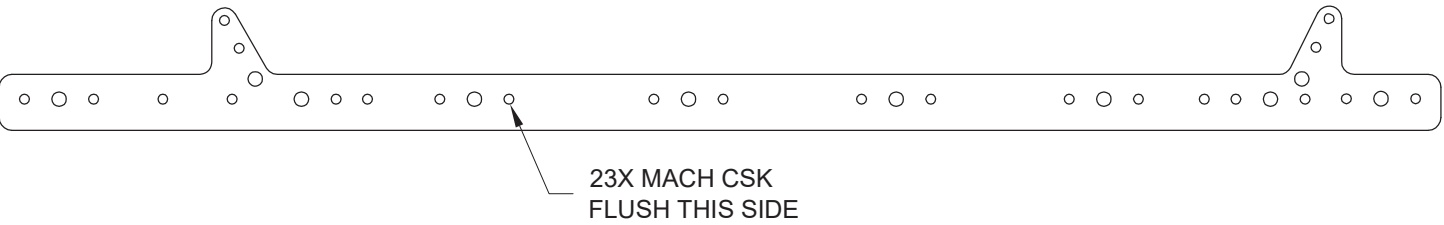

FIGURE 4: PREPARING THE F-00063
Step 5: Machine countersink all rivet holes in the F-00063. See Figure 4.